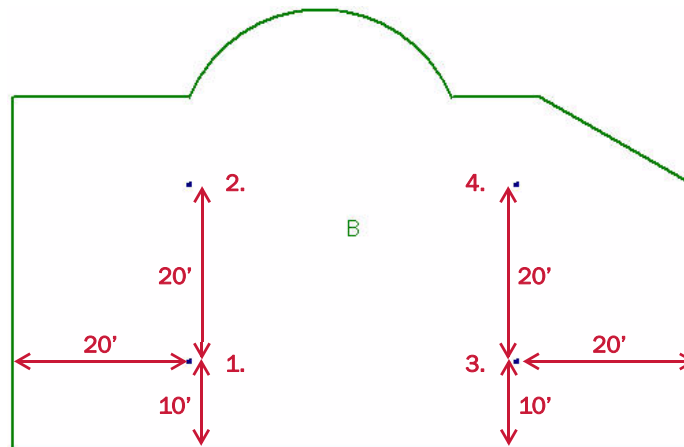

Figure 2-3 Roof B with drains
You'll now add drains to the roof section. On this roof section, you should add the drains in a certain order. This will make it easier to add crickets later. Figure 2-3 shows the roof section with four drains.
8. Add two more drains on this side of the roof, as indicated in Figure 2-3.